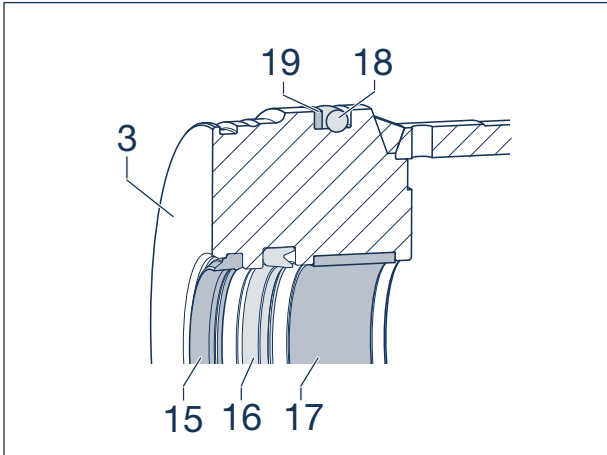

Figure 24
Pay attention to the correct installation position of rod seal (16) and rod wiper seal (15), See Figure 24.